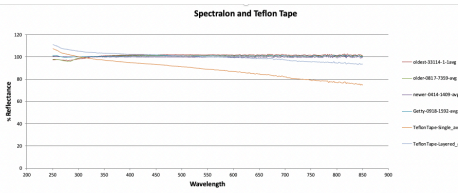

Figure 5. Reflectance measurements
The measurement results from the Carry60 plus Barreliano yield spectral curves that are very much in line with the previous findings (Figure 5), corroborating the i1Pro (3) measurements. The 5-layered PTFE tape behaves very similarly to the other four Spectralon® targets. Although the Carry 60 provides measurements in a wider range of spectra, the values graphed are cropped to resemble and match the ones produced by the i1Pro (3).